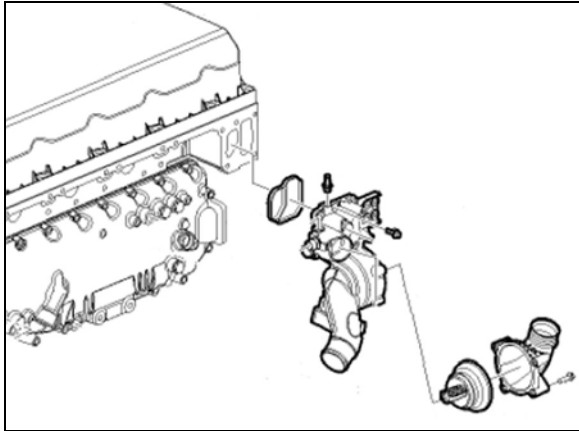

FIGURE 16: VOLVO D13 THERMOSTAT HOUSING
2. Remove the bolts, the thermostat housing and the thermostat. Carefully clean the thermostat seat and all cylinder head-to-thermostat housing mating surfaces (Figure 16).